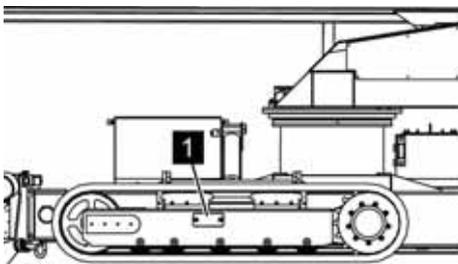

Fig. 133: Lid and cover
10. ▶ Put the lid (Fig. 133/1) back on.